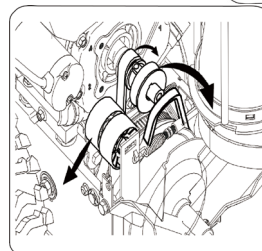

Figure 29
c. Lift the drive belt off engine pulley. See Figure 29.